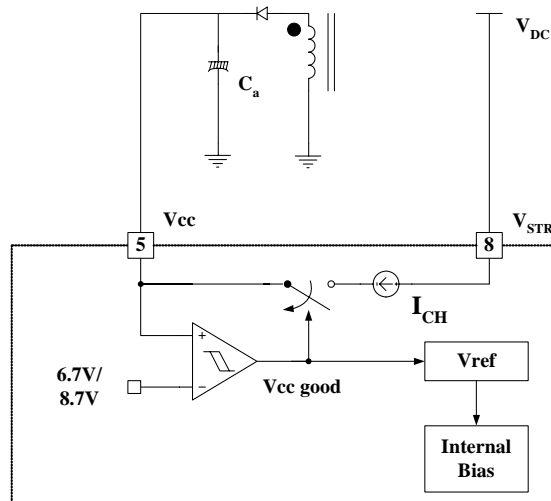

Figure 4. Startup Block
1. Startup: At startup, an internal high-voltage current source supplies the internal bias and charges the external capacitor (C_a) connected to the V_{CC} pin, as illustrated in Figure 4. When V_{CC} reaches 8.7V, the FPS begins switching and the internal high-voltage current source is disabled. The FPS continues normal switching operation and the power is supplied from the auxiliary transformer winding unless V_{CC} goes below the stop voltage of 6.7V.